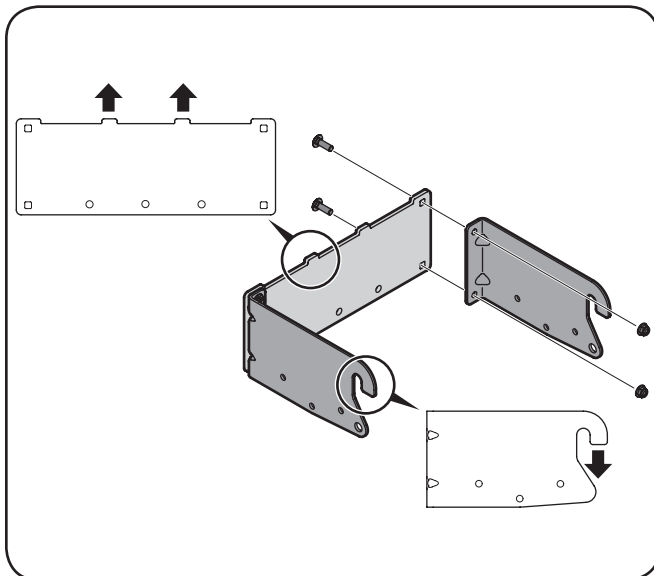

Figure 4-1
1. Attach the two hitch side brackets to the universal rear attachment bracket using four hex bolts and flange lock nuts. With the hooks on the hitch side brackets pointing down, the tabs on the hitch plates should be pointing upwards. See Fig. 4-1.